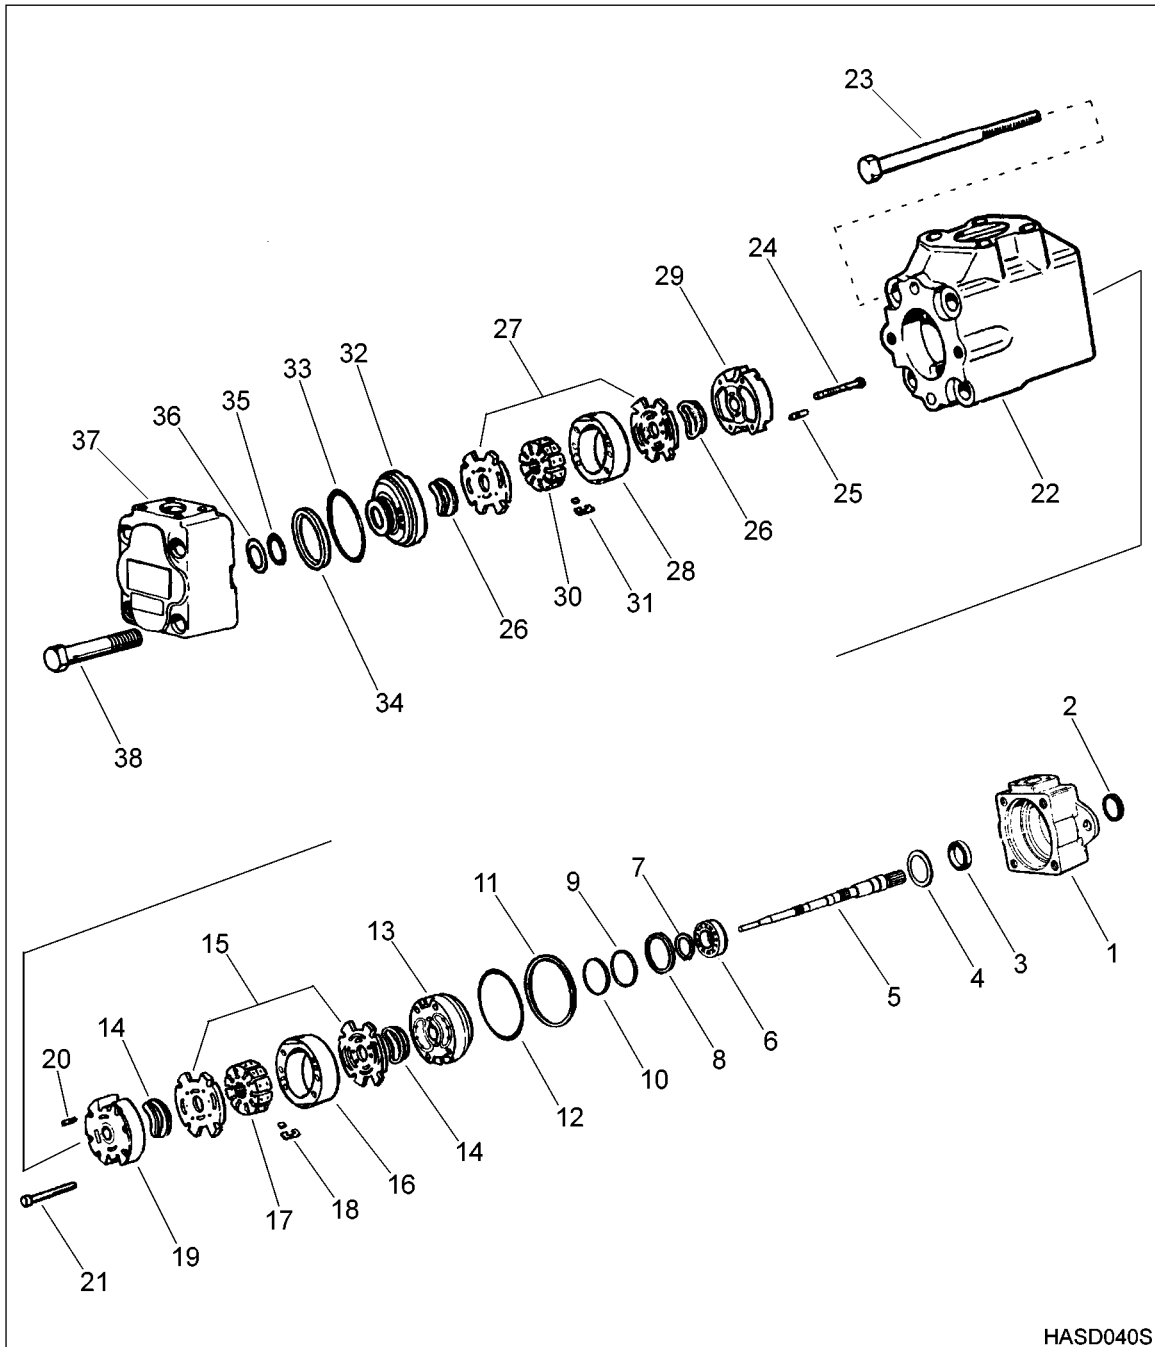

Figure 2
- F. Install square sealing ring into body. See Figure 2 and Figure 8 (sectional view) for location.